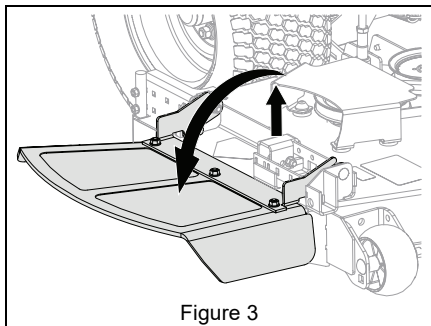

Figure 3
4. Lift discharge chute up slightly and rotate to operating position. See Figure 3.